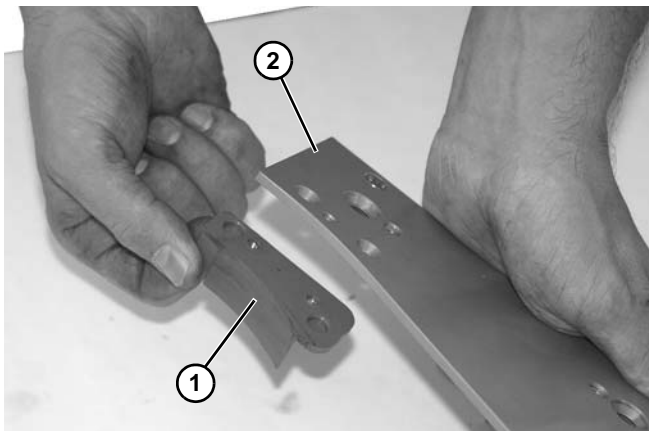

Figure 127
5. Remove lower retaining guide (Figure 127, item 1) from drive plate (Figure 127, item 2).